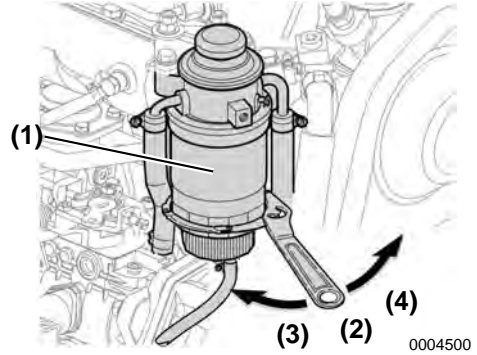

Figure 14
(Figure 14, (1)) with a filter wrench
(Figure 14, (2)).